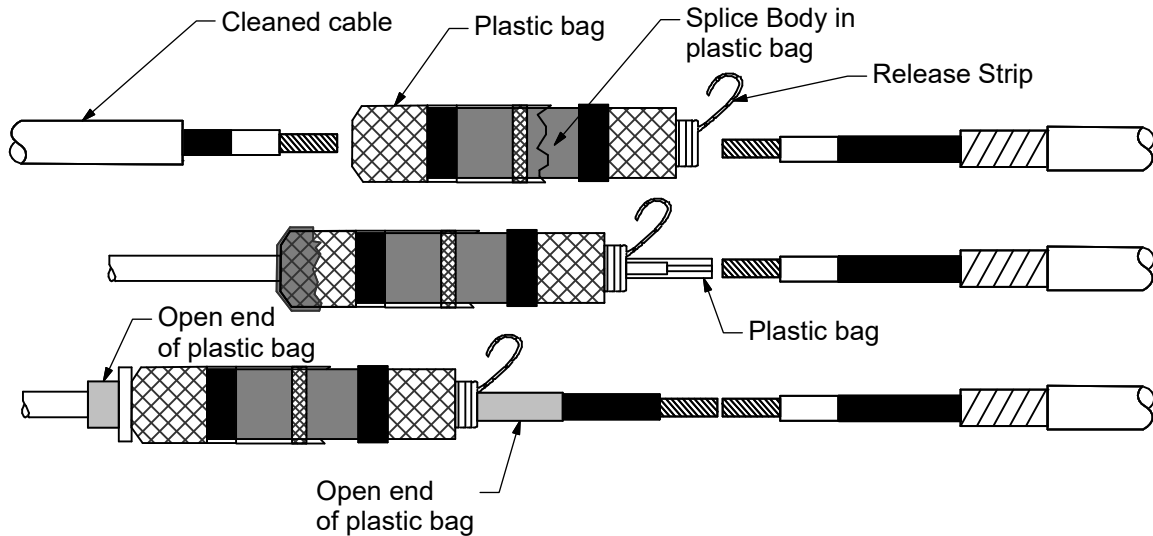

Figure 3
- Figure 3 shows the placement of the splice body on the cable. Also shown in Figure 3 is the optional use of the plastic bag supplied with the splice body to cover the cable to maintain cleanliness.